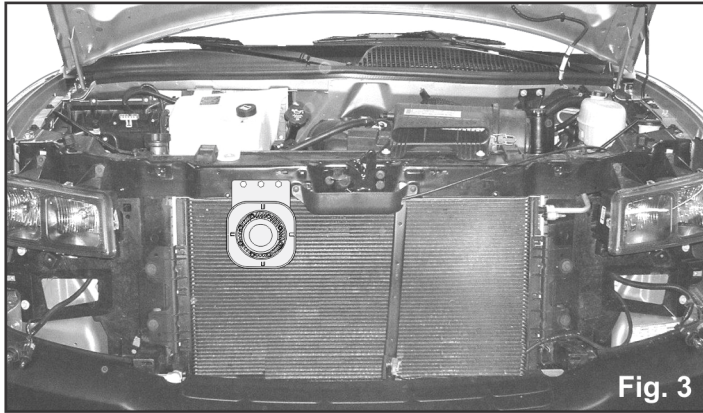

Fig. 3
4. Secure the speaker/bracket to the vehicle. with the supplied 1/4 X 3/4 Hex washer head self-tapping mounting screws. Drive the mounting screws in only part way with the drill and socket (Fig. 3).